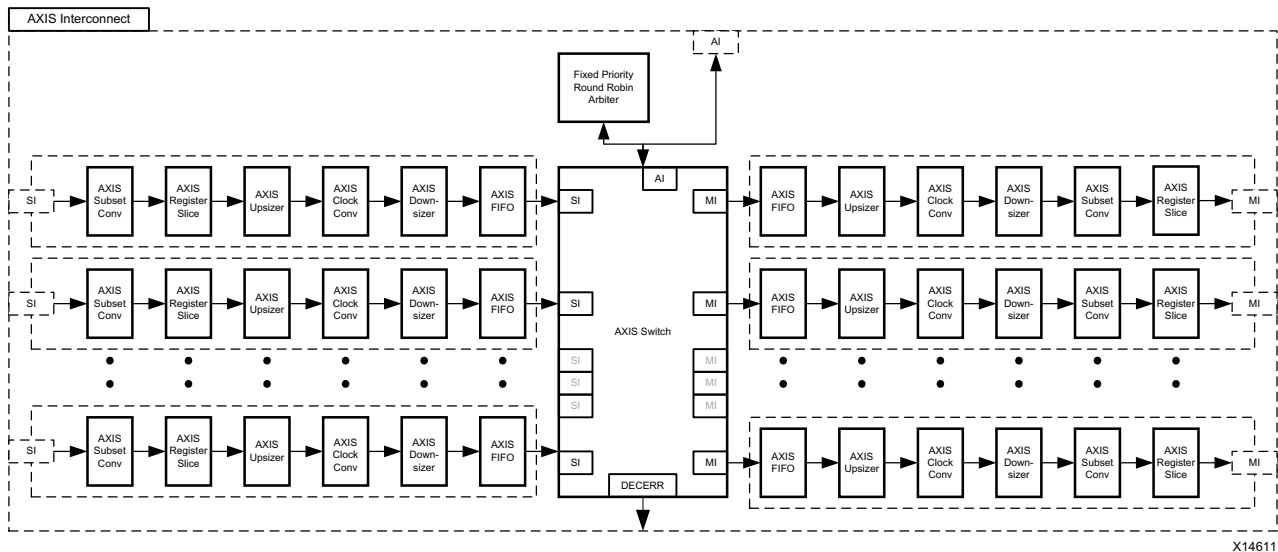

Figure 2-1: AXI4-Stream Interconnect Block Diagram
The AXI4-Stream Interconnect core is a collection of submodules centered around the AXI4-Stream Switch. There are submodules grouped together in datapaths before and after the switch that allow for data manipulation and flow control. Each individual submodule consists of AXI4-Stream protocol compliant master and slave interfaces. A block diagram of the AXI4-Stream Interconnect is shown in Figure 2-1.
As shown in Figure 2-1 an AXI4-Stream Master can connect to the Slave Interface (SI) of the AXI4-Stream Interconnect. Similarly, an AXI4-Stream Slave can connect to the Master Interface (MI) of the AXI4-Stream Interconnect. The AXI4-Stream Switch supports sparse configurations, SI side decoding, MI side arbitration (one arbiter per MI port), and various arbitration modes.